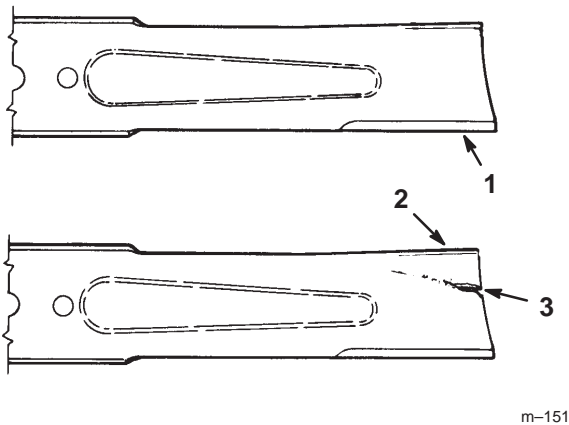

Figure 15
1. Inspect the cutting edges (Fig 15). If the edges are not sharp or have nicks, remove and sharpen the blades. Refer to Sharpening the Blades on page 39.
2. Inspect the blades, especially the curved area (Fig. 15). If you notice any damage, wear, or a slot forming in this area (item 3 in Fig. 15), immediately install a new blade.